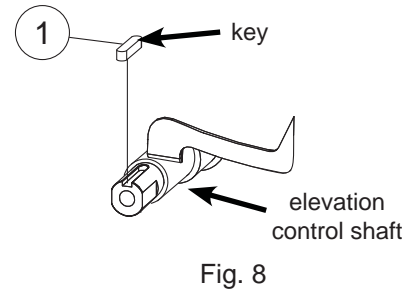
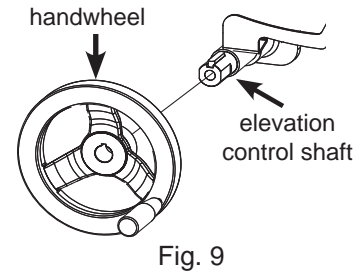
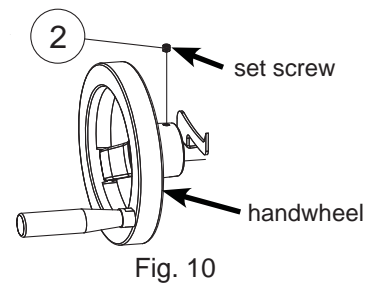
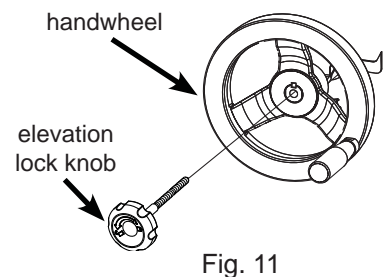

Fig. 8
Fig. 9
Fig. 10
Fig. 11
- Open one of the handwheel packages included with your saw and screw the handle into the handwheel (see Fig. 7). Tighten the handle with a 14 mm wrench. The hardware required to install the elevation handwheel is located in the area with the blue background on the Table Saw Hardware Pack. Remove a key from the Table Saw Hardware Pack and insert it into the slot at the end of the elevation control shaft (see Fig. 8). Slide the handwheel onto the end of the elevation control shaft (see Fig. 9) until the face of the handwheel is flush with the end of the shaft. Remove a set screw from the Table Saw Hardware Pack and insert it into the small hole located on the side of the handwheel (see Fig. 10). Use a 3 mm hex key to fully tighten the set screw. Locate the lock knob with the longer shaft. Screw the lock knob into the end of the elevation control shaft (see Fig. 11), but don't tighten it completely. The lock knob is used to prevent the handwheel from turning after the blade has been set to a new elevation.